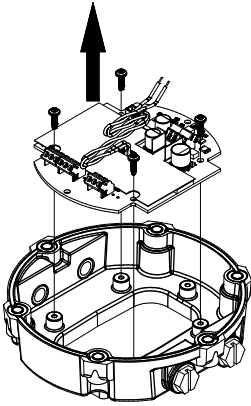

Figure 17
- Flip the cover plate over and remove (4) screws retaining the PC board assembly (see Figure 17).